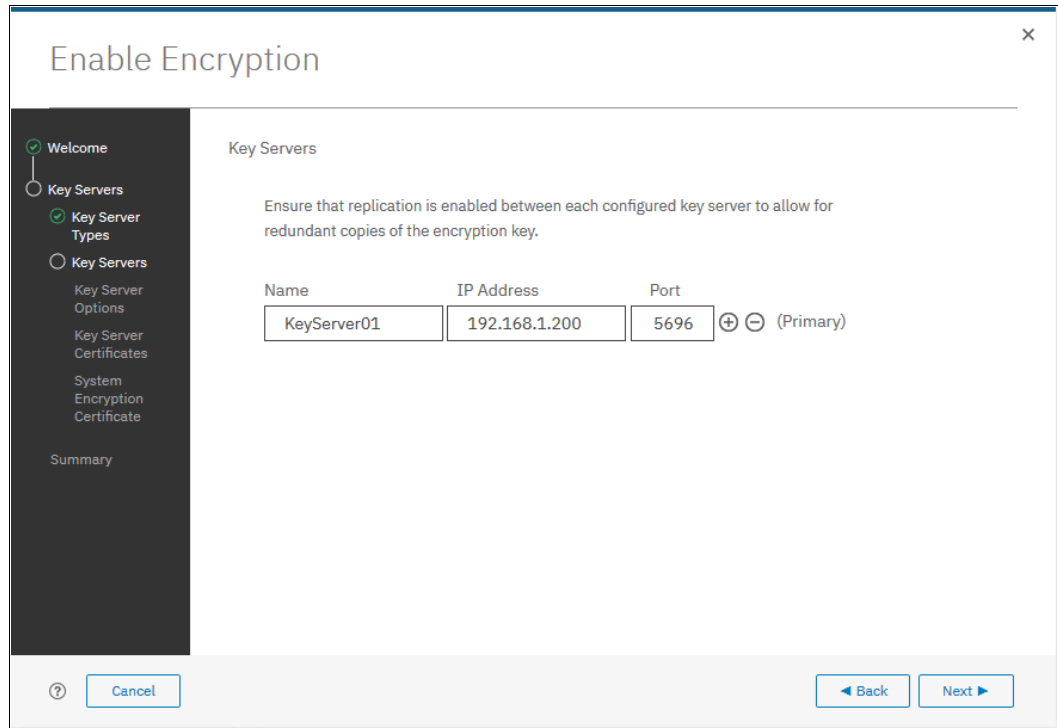

Figure 13-32 Configuration of the primary SKLM server
4. The wizard moves to the Key Servers tab, as shown in Figure 13-32 on page 753. Enter the name and IP address of the key servers. The first key server that is specified must be the primary SKLM key server.
The key server name serves only as a label. Only the provided IP address is used to contact the server. If the key server's TCP port number differs from the default value for the KMIP protocol (that is, 5696), enter the port number. An example of a complete primary SKLM configuration is shown in Figure 13-32 on page 753.